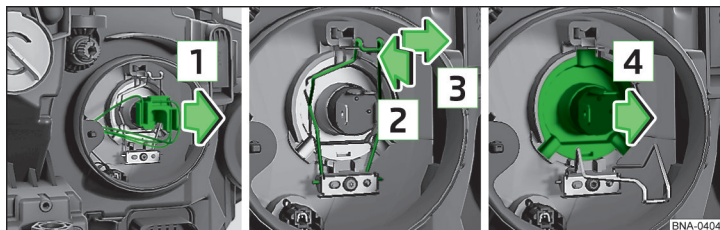

Fig. 107 Removing bulbs for low and main beam
- › Press the connector latch and remove the plug connector by jiggling in the direction of arrow **1** » fig. 107.